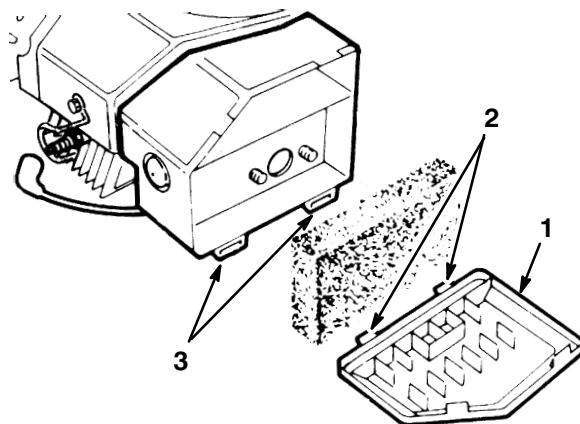

Figure 5
1. Insert bottom tabs of air cleaner cover into slots. Rotate cover upwards and snap into place (Fig. 5).